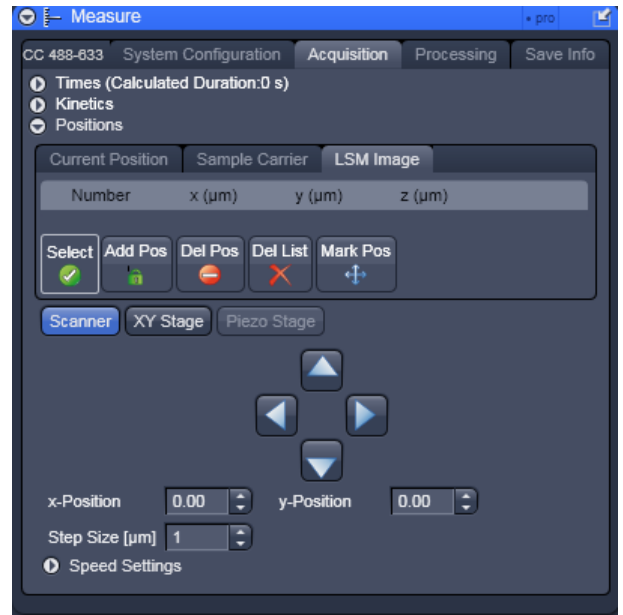

Fig. 9-44 LSM Image panel
- Click on the **LSM Image** tab to open the **LSM Image** panel (Fig. 9-44). Click on any other tab to leave the panel.